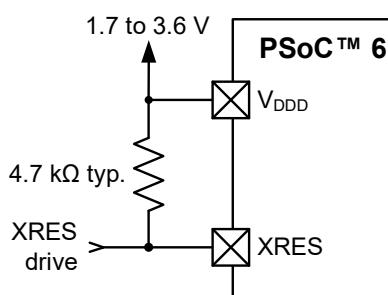

Figure 5 XRES connection diagram
- External reset dedicated pin (XRES) to reset the device using an external source. The XRES pin is active low. It can be connected either to a pull-up resistor to V_{DDD} , or to an active drive circuit, as Figure 5 shows. If a pull-up resistor is used, select its value to minimize current draw when the pin is pulled low; 4.7 kΩ to 100 kΩ is typical.